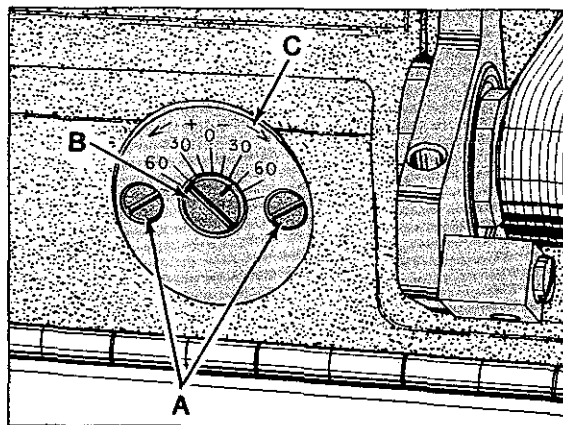

Fig. 9
Machine is equipped with a quick adjustable looper avoid to accommodate extreme differences in needle sizes. If looper avoid requires re-setting, loosen two screws (A, Fig. 9) and turn eccentric stud (B) towards the plus side (counterclockwise) for more looper avoid or towards the minus side (clockwise) for less looper avoid. When desired setting is acquired, tighten screws (A).